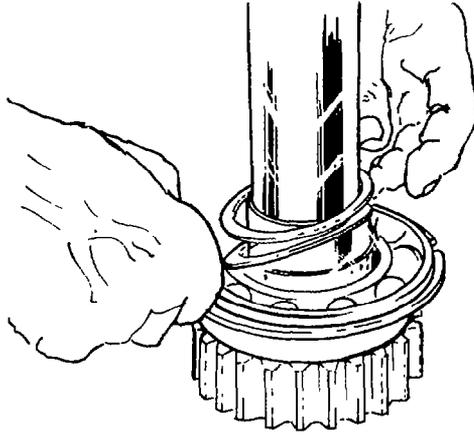

Fig. 184 — Removing Spirolox Snap Ring
- a. Remove the bearing retaining Spirolox snap ring (see fig. 184).